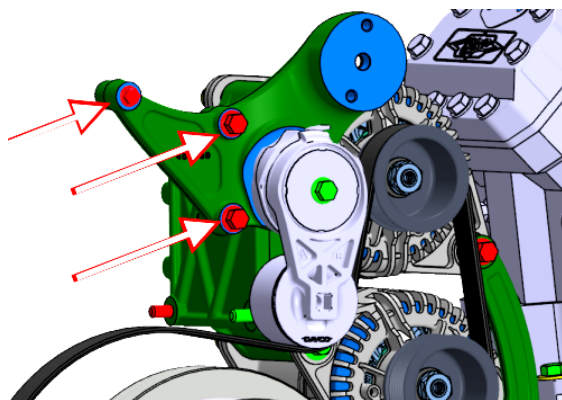

FIGURE 11
18. Remove the alternator belt tensioner bracket assembly. To do so, remove the three bolts identified with arrows on **FIGURE 11**.